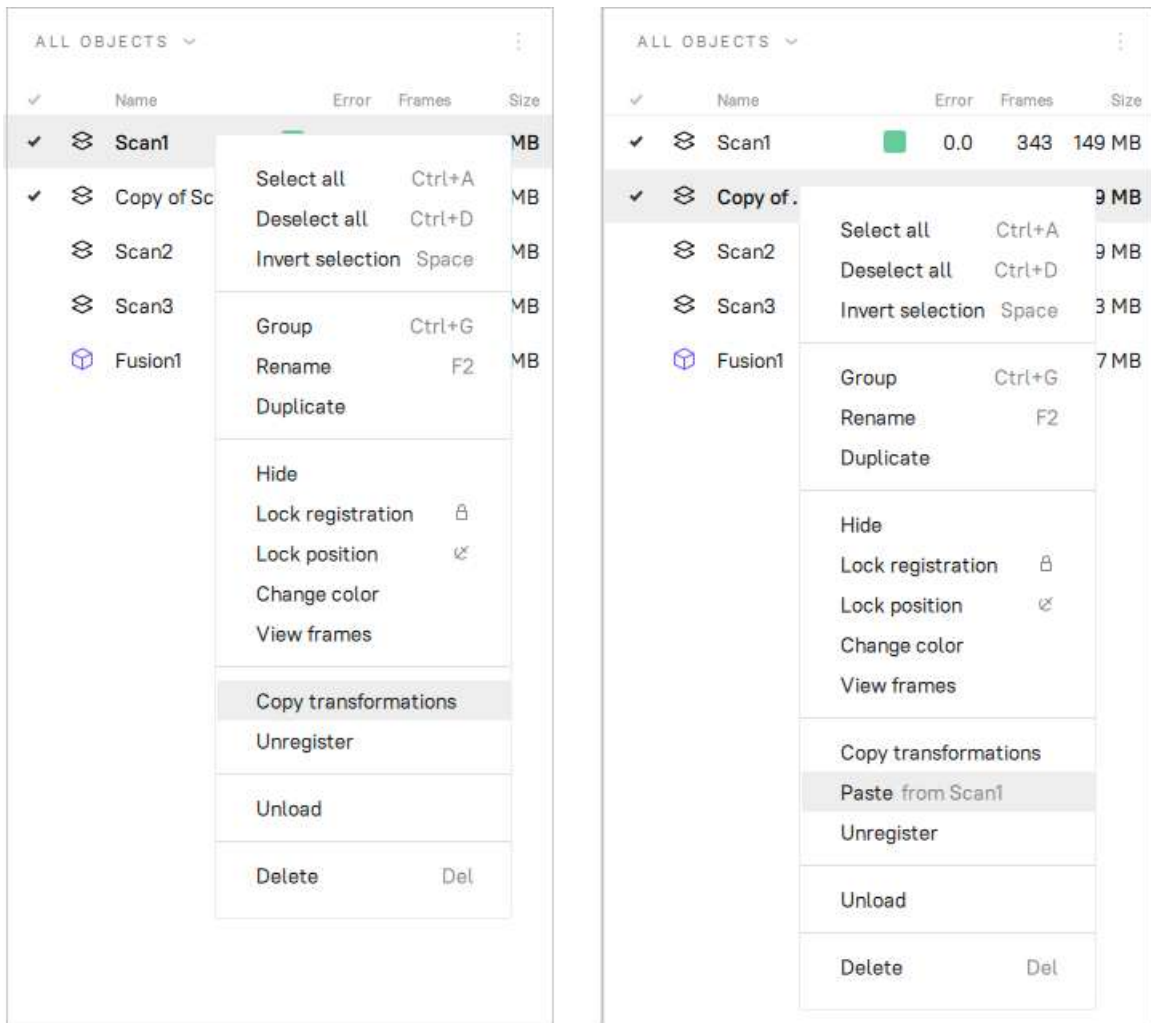

Figure 91: Transferring transformations: copying transformations (left) and pasting them (right)
1. In the Workspace panel, right-click the source scan and choose *Copy Transformation* from the context menu (see *Figure 91*, left). The transformations of the source scan and its frames will be saved.
3. Right-click the selected scan(s) and from the context menu choose *Paste from <source scan name>* (see *Figure 91*, right).